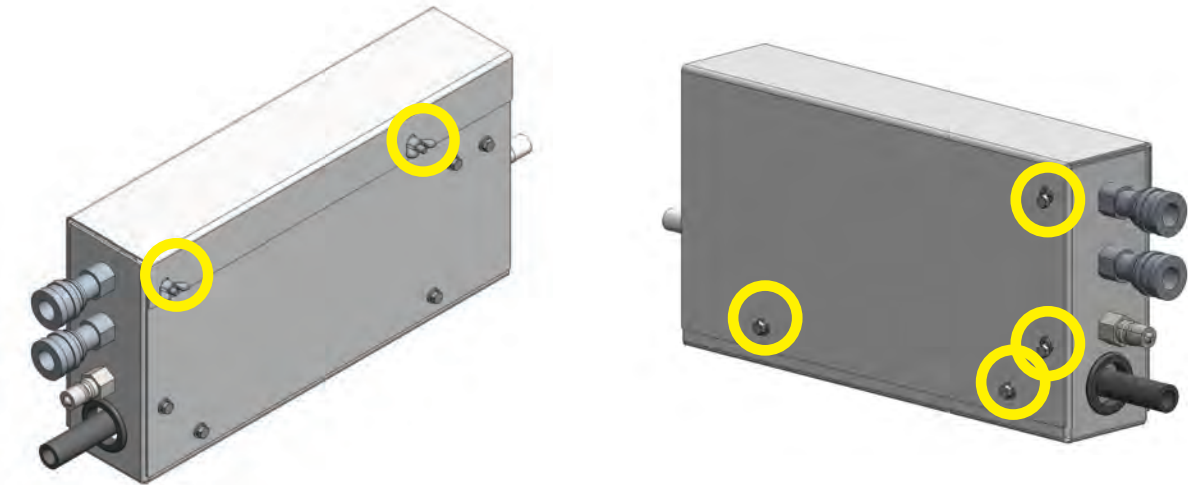

Figure 62. Remove Wing Nuts, Screws and Washers from QC Dash Box
1. Remove the wing nuts from the QC Dash Box (see Figure 62).